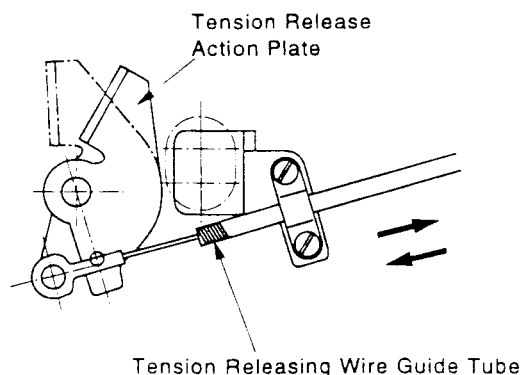
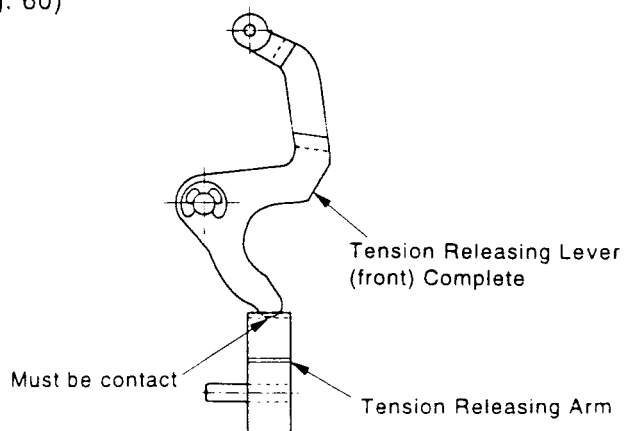

Fig. 60
Fig. 61
2. Move tension releasing wire guide tube in the direction indicated with arrow so that tension releasing lever (front) complete, Fig. 61 will come in contact with tension releasing arm when tension release action plate is activated by trimmer solenoid. (Fig. 60)